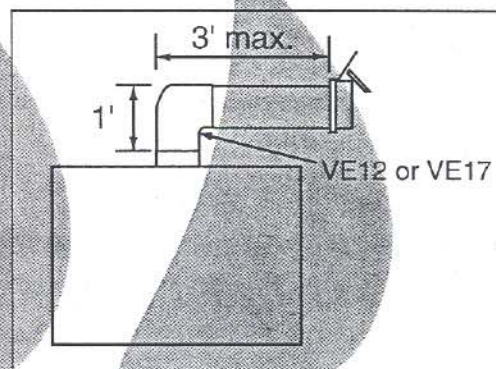

Figure 5
b. Vent Lengths - Various venting configurations are shown in Figures 5 - 8 from which maximum vent lengths can be determined.